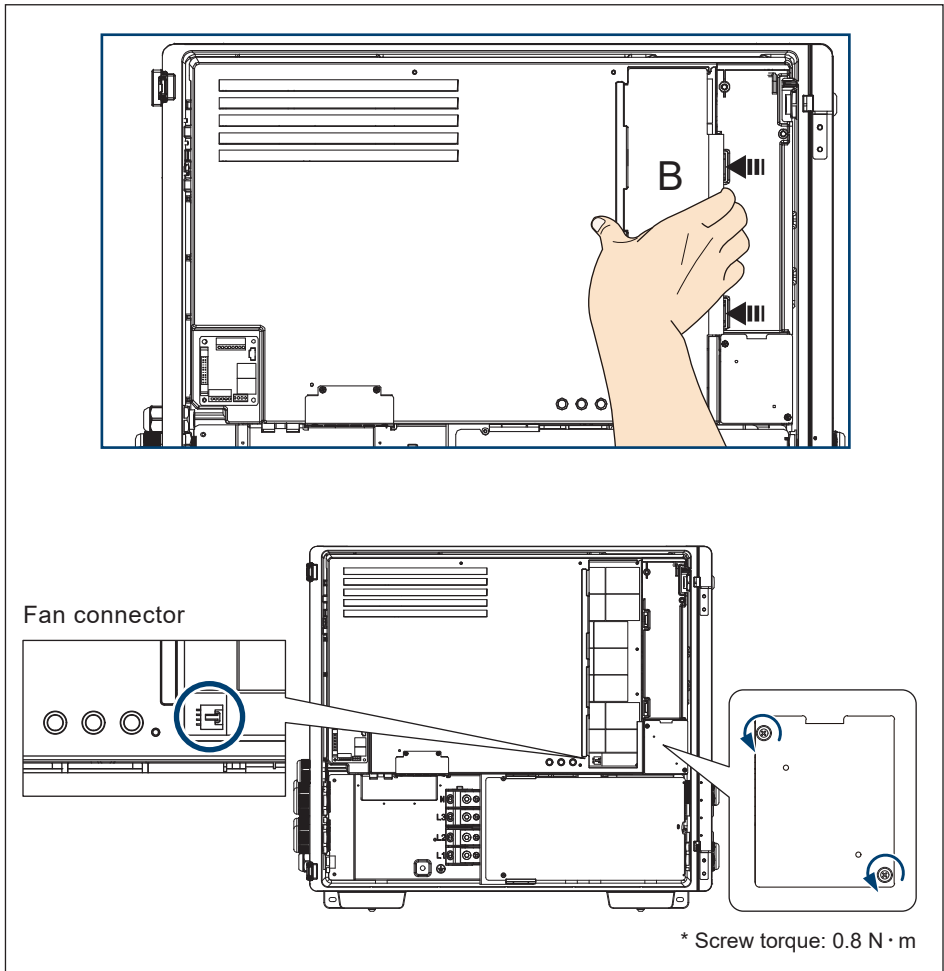

Figure 5-10: Internal fan 1 location & remove the shield cover
- (1) Remove the B cover. (**Figure 5-10**)
- (2) Disconnect the power connector on the LED board. (**Figure 5-10**)